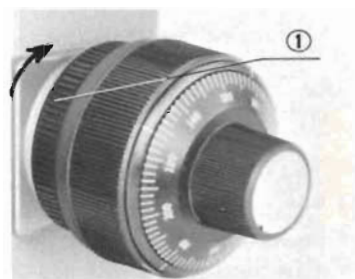

Fig. 7
A tension adjustment ring ① is provided next to the right hand coarse adjustment knob. With this device the tension of the coarse adjustment is freely adjustable for either heavy or light movement depending on operator preference. (Fig. 7)